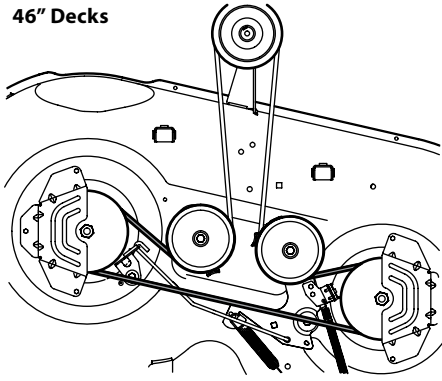
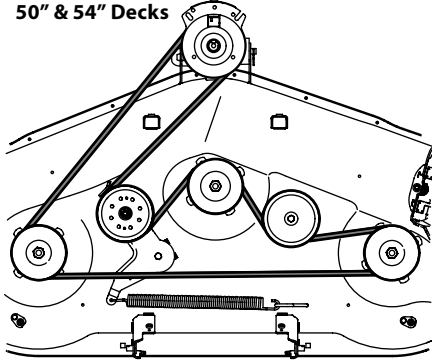

Figure 4-9
Figure 4-10
- Route the new belt as shown in the applicable figure on the following pages. See Figure 4-9 for 42" decks, Figure 4-9 for 46" decks and Figure 4-10 for 50" & 54" decks.